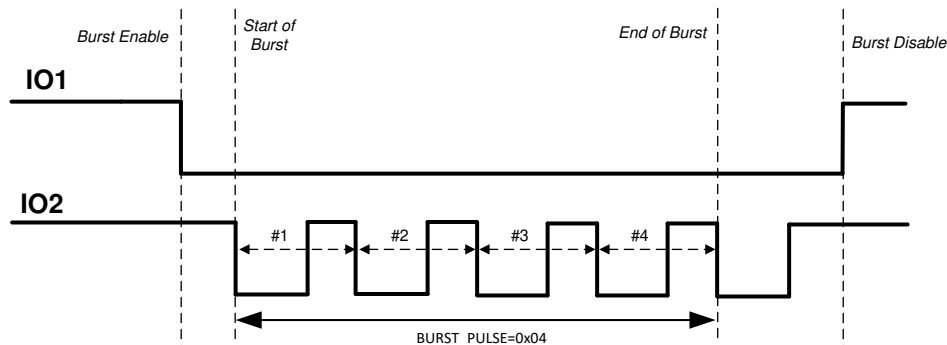

Figure 7-2. IO_MODE 1 Description
- **IO_MODE = 1:** In this mode, the external clock for the transducer is applied at the IO2 pin and the burst mode is enabled when IO1 pin transitions low (see Figure 7-2). The device then expects a clock at IO2 pin to generate pulses on the OUTA/OUTB pins. The start of burst happens from the first falling edge of IO2. The number of pulses are counted by counting falling edge to next falling edge transitions on IO2 once the start of burst is triggered. End of burst sequence is signaled when the number of pulses defined in BURST_PULSE are sent or IO1 transitions high, whichever occurs earlier. TI recommends that IO2 is held high before start of burst to count the number of pulse correctly. After the start of burst, the state of OUTA and OUTB pins are determined by IO1 and IO2 pins. A transition of IO1 from low to high to low again is required to initiate a new burst sequence.